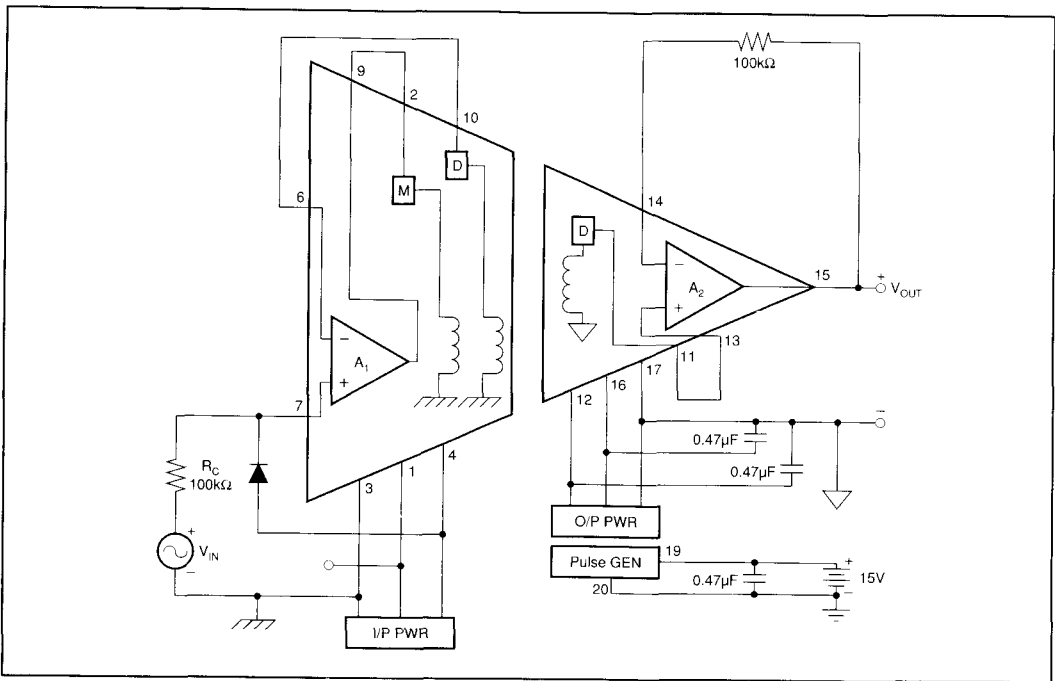

FIGURE 2. Power: Three-Port Isolation; Signal: Unity-Gain Noninverting.
- The input voltage at pin 7 (noninverting input to A_1) must not exceed the voltage at pin 4 (negative supply voltage for A_1) in order to prevent a possible lockup condition. A low leakage diode connected between pins 7 and 4, as shown in Figure 2, can be used to limit this input voltage swing.
NOTE: Figures 2, 3 and 4 are used to illustrate both signal and power connection configurations. In the circuits shown, the power and signal configurations are independent so that any power configuration could be used with any signal configuration.
The power supply connections in Figure 2 show the full three-port isolation configuration. The system has three separate grounds with no galvanic connections between them. The two external $0.47\mu F$ capacitors at pins 12 and 16 filter the rectified isolated voltage at the output stage. Filtering on the input stage is provided by internal capacitors. In this configuration continuous isolation voltage ratings are: 3500V between pins 3 and 17; 3500V between pins 3 and 19; 1000V between pins 17 and 19.
The signal path portion of Figure 2 shows the 3656 is its simplest gain configuration: unity gain noninverting. The two $100k\Omega$ resistors provide balanced resistances to the inverting and noninverting inputs of the amplifiers. The diode prevents latch up in case the input voltage goes more negative than the voltage at pin 4.